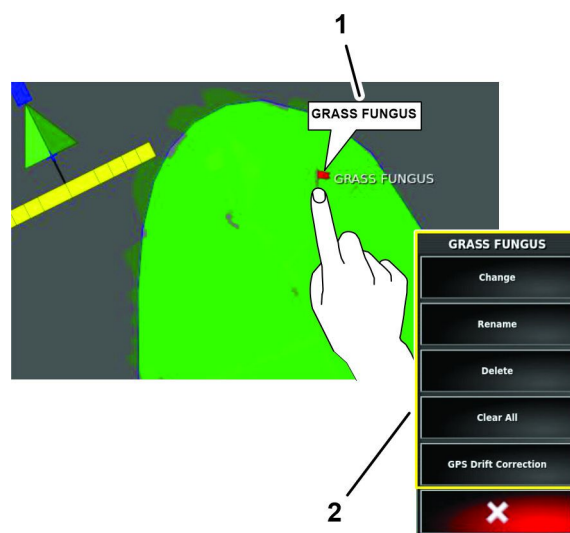

Figure 83
1. Press your finger on flag point in command console screen until the flag point pop-up displays (Figure 83).
The flag edit menu displays (Figure 83).